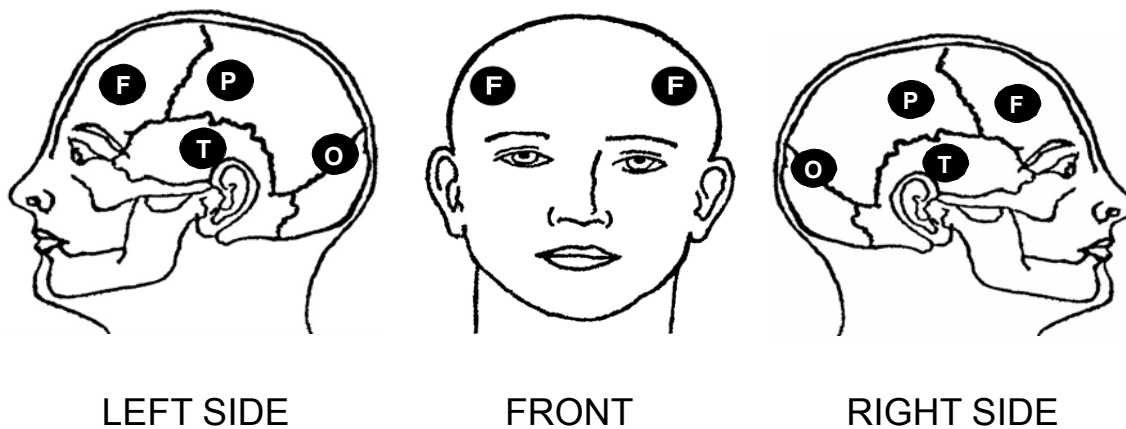
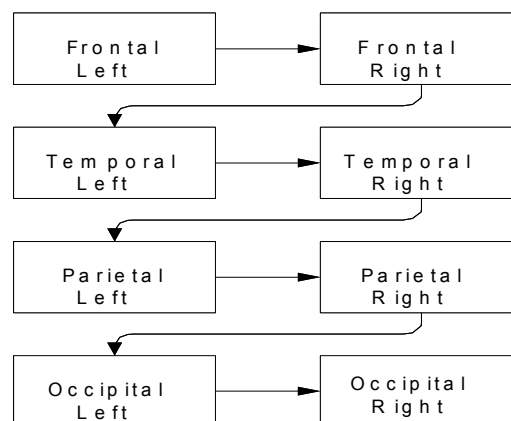

Figure 4-3: Head locations of NIR measurement
Figure 4-4: Infrascanner head scanning sequence
- The frontal sites are on the left and right sides of the forehead, above the frontal sinus. The temporal sites are on the left and right sides of the temporal fossa in front of the top of the ear. The parietal sites are on the left and right sides midway between the ear and the midline of the skull. The occipital sites are on the left and right sides behind the top of the ear, midway between the ear and the occipital protuberance, (see Figure 4-3). The sites are scanned in a predetermined sequence as shown in Figure 4-4. The difference in optical density (ΔOD) in the different areas is calculated from the following formula: